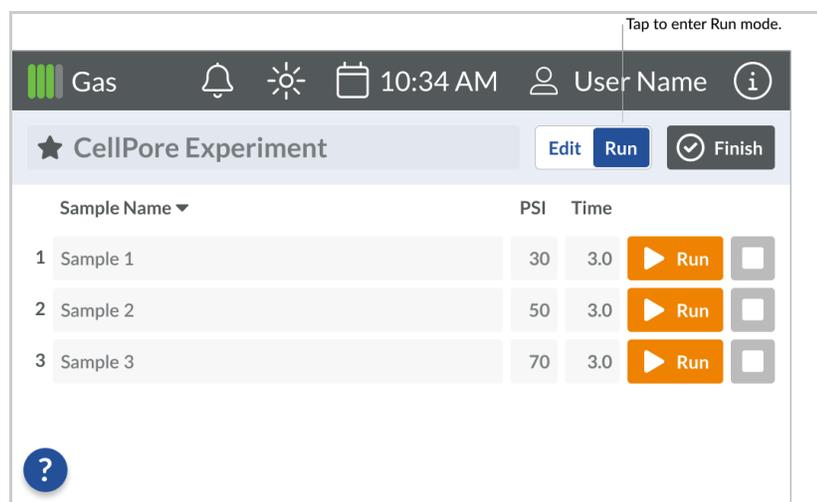

Figure 34. Experiment Run Screen. Run controls are provided for each defined sample.
3. Tap   [Run] (Figure 34). The screen displays the Run controls for each Sample of the Experiment.